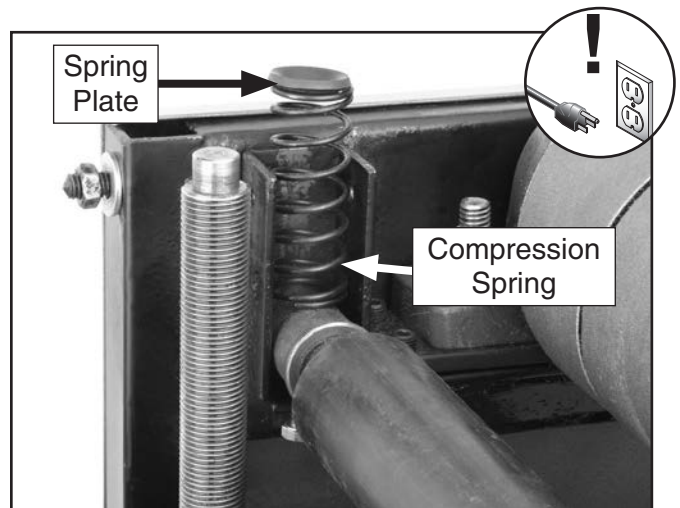

Figure 41. Front pressure roller components.
5. Remove the dust scoop (4 hex bolts and 4 flat washers), compression springs and spring plates (**Figure 41**) from the front pressure roller and set the roller aside.